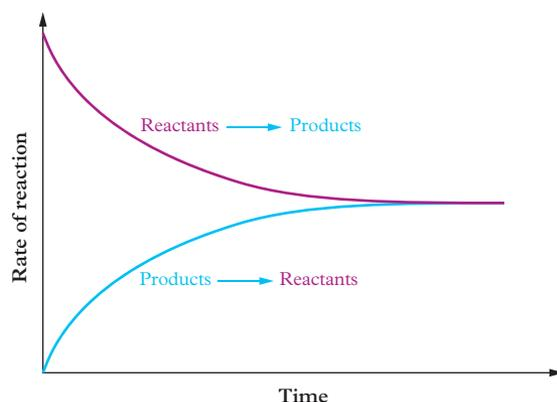

FIGURE 3 Dynamic equilibrium is reached when the rates of the forward and reverse reactions are equal.
- the rates of the forward and reverse reactions are equal (Figure 3).